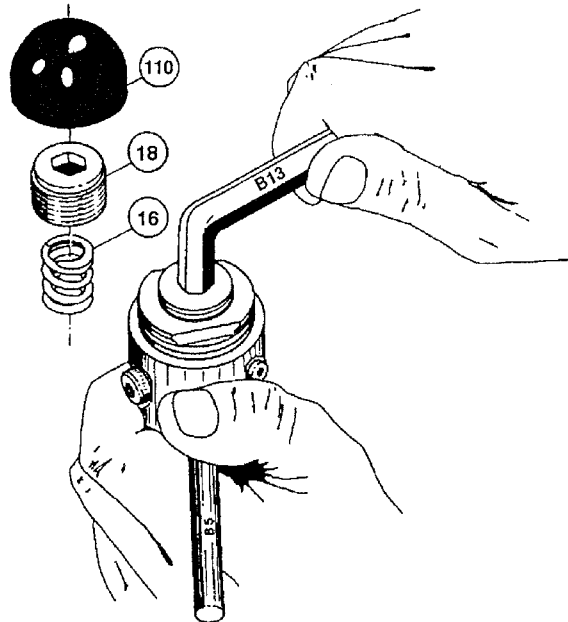

FIG. 4
7. Free the valve seat (75) from the first stage, and remove the O-Ring (74).
8. Using an Allen wrench (B-13), unscrew the adjusting nut (18) and draw out the spring (16). (Fig. 4)